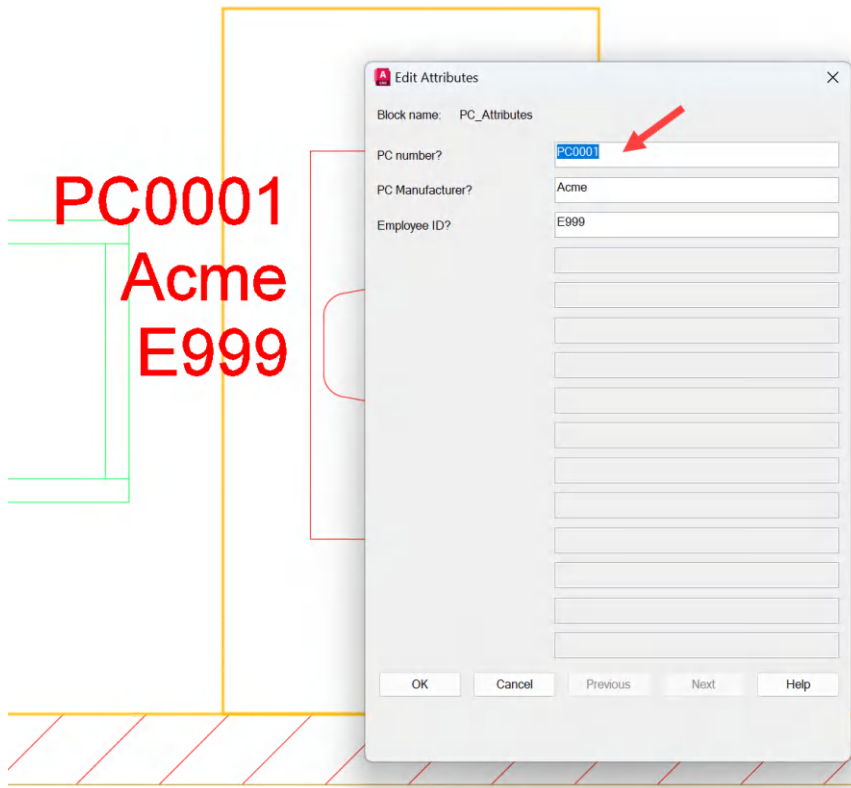

Figure 10.24: The Edit Attributes dialog box
9. The **Edit Attributes** dialog box appears after clicking to position the block, as shown in *Figure 10.24*.